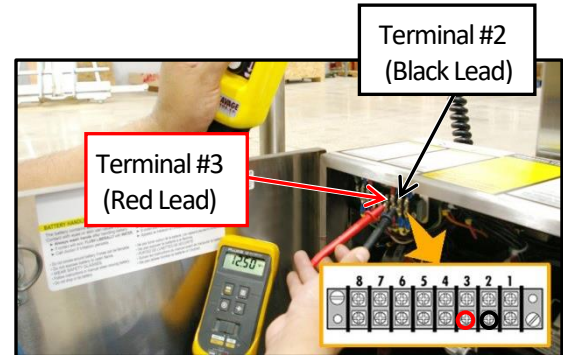

Figure 77— **"FORWARD"** Position
6. Place the red multimeter lead on **terminal #3** on the terminal strip. Place the black multimeter lead on **terminal #2** on the terminal strip (Figure 77). The voltage reading on the multimeter needs to be 0V. Select the **"FORWARD"** position on the control pendant, at which point the voltage should go to **12V** or slightly higher.